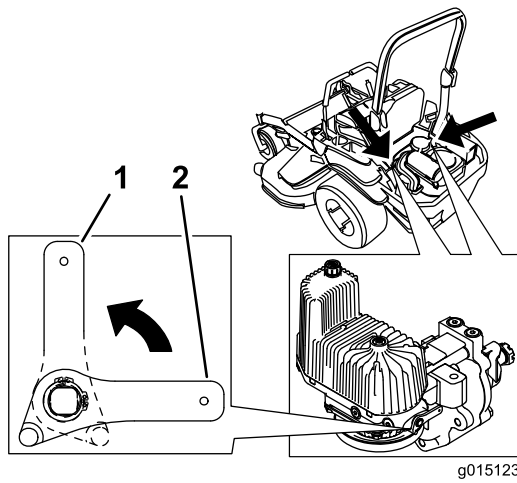

Figure 32
2. Rotate the release-valve levers vertically to push the machine. This allows hydraulic fluid to bypass the pump, enabling the wheels to turn (Figure 32).
4. Rotate the release valve levers horizontally to run the machine (Figure 32).